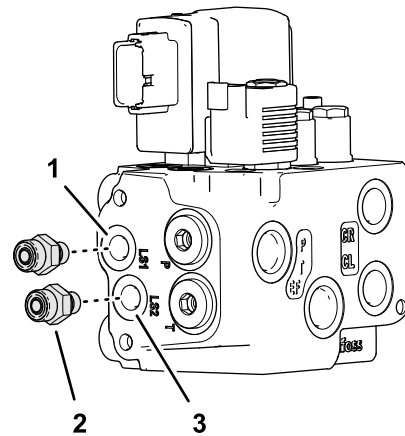

**Figure 69**
- Affix the decal to the manifold mount as shown in Figure 69.